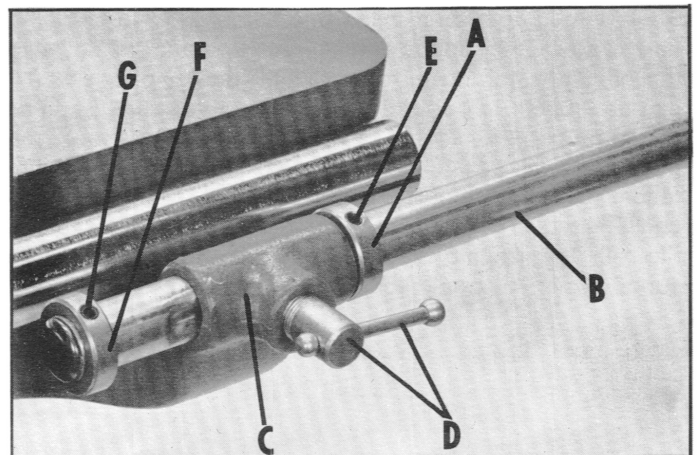

Fig. 17
6. Place collar (A) Fig. 17, on the support arm (B) and assemble support arm to the bracket (C). Tighten clamp screw (D) into the flat in the support arm (B). Loosen clamp screw (D) 1/4 turn, move the support arm to the right (as viewed from front of saw) as far as it will go and tighten clamp screw (D). Place collar (A) against the bracket (C) and tighten set screw (E). Loosen nut (D) 1/4 turn, move the support arm (B) to the left (as viewed from the front of saw) as far as it will go, and tighten clamp screw (D). Place the collar (F) against the bracket (C) and tighten set screw (G).